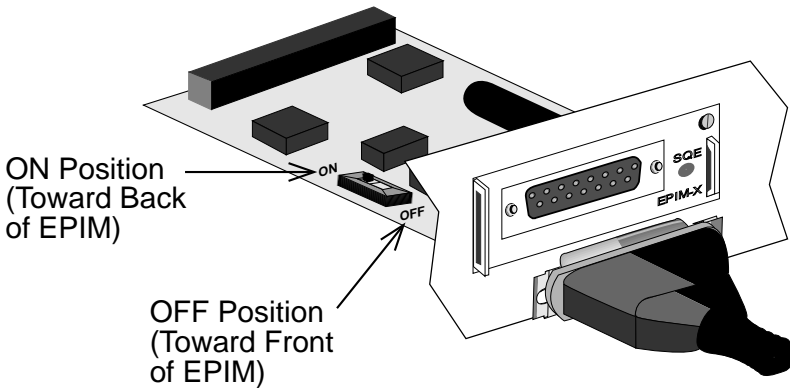

Figure 4-7. The EPIM-X
2. Attach one end of an AUI cable, no longer than 50 meters in length, to the port located on the EPIM-X (Figure 4-7) and the other end to the intended node.